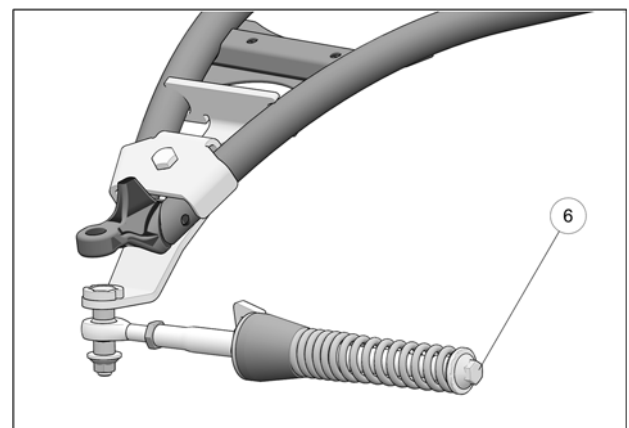

Fig. 16
- Verify that spring assembly bolt (6) is tightened to the recommended torque specification: 75 N•m [55 lb•ft]. Refer to Fig. 16